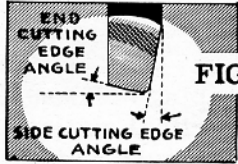

FIG. 225
-The side-cutting edge angle is the angle between the straight side-cutting edge and the side of the tool shank. In the case of a bent tool, this angle is measured from the straight portion of the shank (Fig. 225).
-The end-cutting edge angle is the angle between the cutting edge on the end of the tool and a line at right angles to the side edge of the straight portion of the tool shank (Fig. 225).